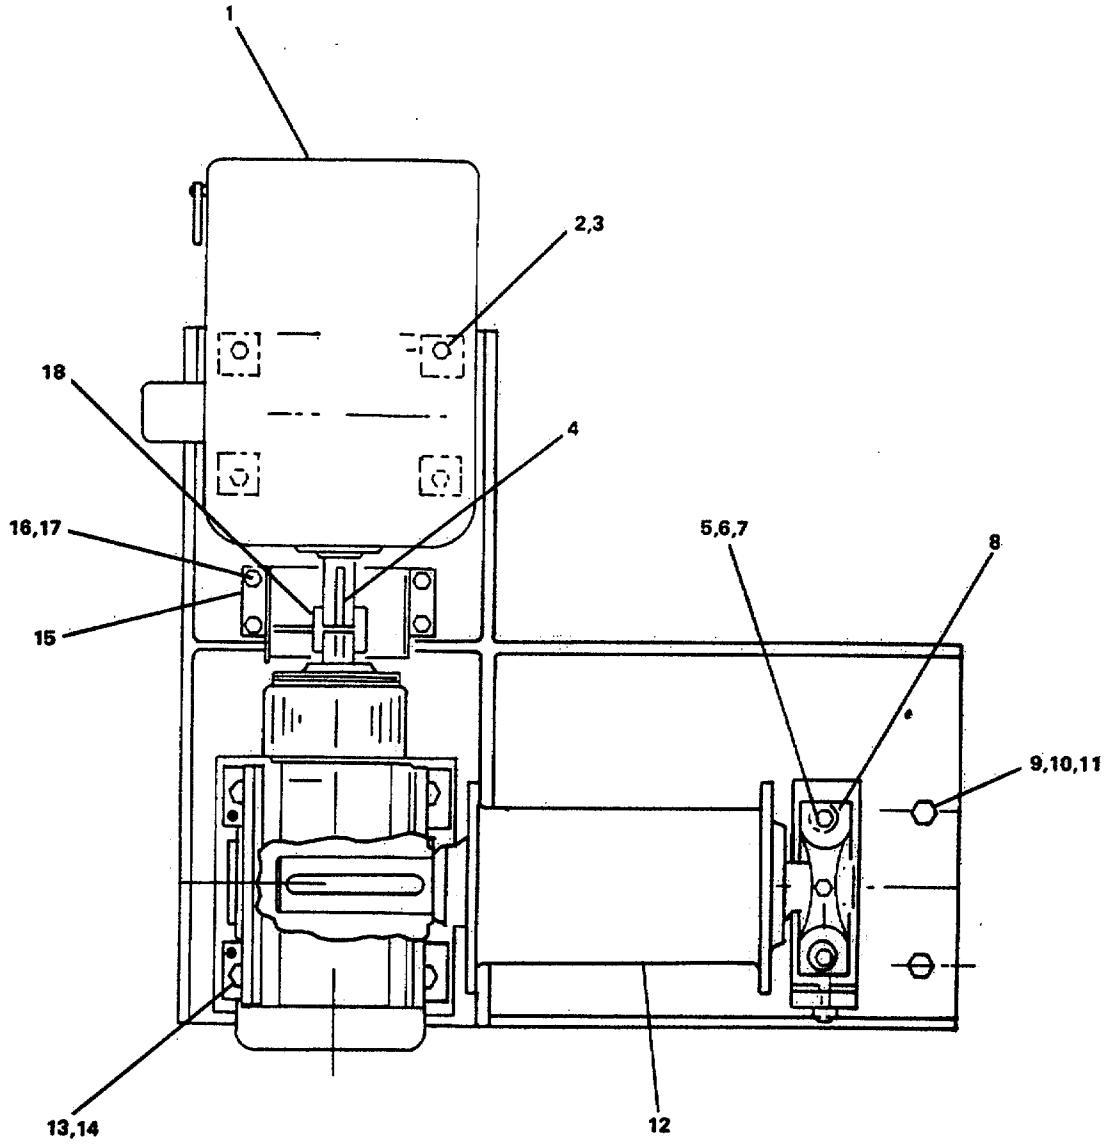

FIGURE 3-187. *Replace/Repair Winch.*
- b. Install hexagon bolts (13). lockwashers- (14) and torque to 135 ft-lb.
- c. Remove tag and connect electrical leads (16) to deck socket (15).
**3-199. Replace/Repair Winch Assembly. (Figure 3-187)**